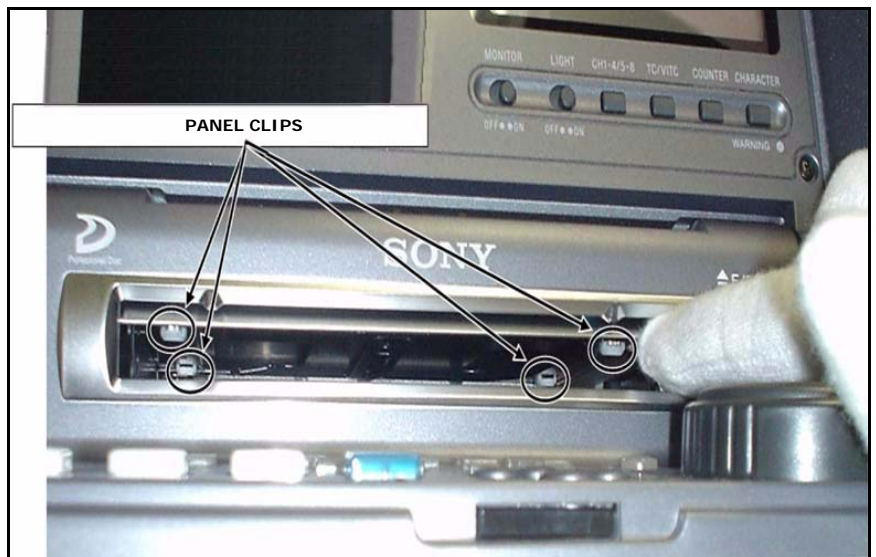

Figure 2
3. Illuminate the inside of the loader with a small flashlight, and confirm that the four panel clips of the P1 Loader are installed. (See Figure 2.)
4. If any panel clips are missing, replace the P1 loader assembly (RP) with a new one.